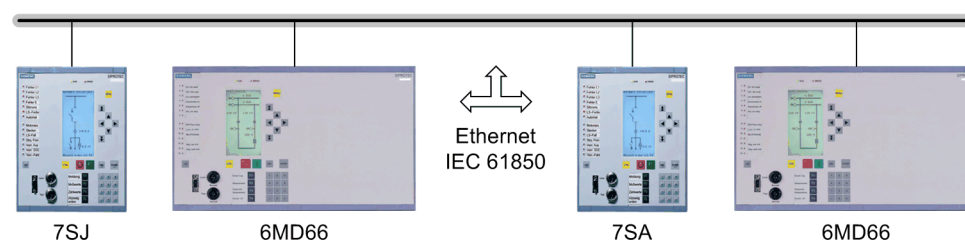

Figure 2-30 Switchgear interlocking system with 6MD66 and IEC61850—GOOSE
- If communication with IEC61850 via Ethernet is used, information for the system interlocking is exchanged directly from one bay controller to the other (or to any other GOOSE-capable bay controllers). The Ethernet interface used is the same as for communication with the station controller (see Figure 2-30).